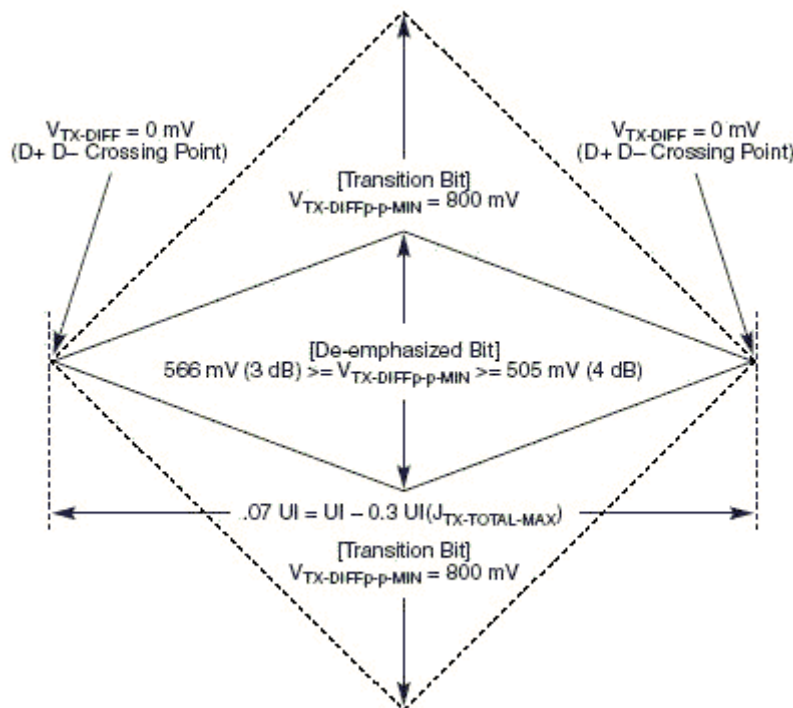
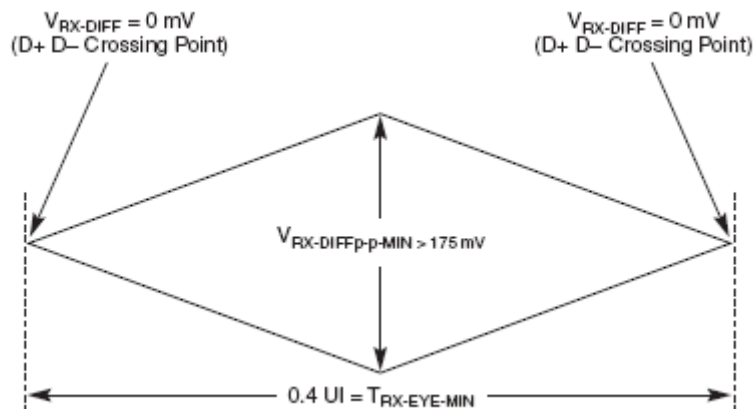
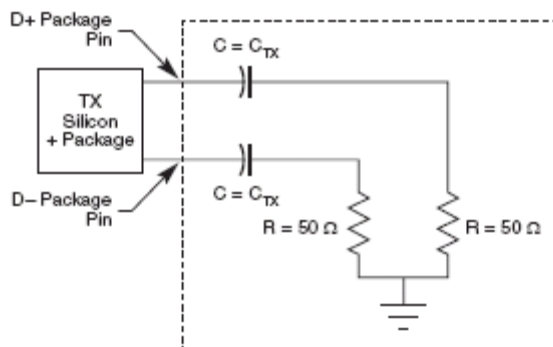

Figure 69. Minimum Transmitter Timing and Voltage Output Compliance Specifications
Figure 70. Minimum Receiver Eye Timing and Voltage Compliance Specification
Figure 71. Compliance Test/Measurement Load
The TX eye diagram in Figure 69 is specified using the passive compliance/test measurement load (see Figure 71) in place of any real PCI Express interconnect + RX component.
2. Specified at the measurement point and measured over any 250 consecutive UIs. The test load in Figure 71 should be used as the RX device when taking measurements (also refer to the Receiver compliance eye diagram shown in Figure 70). If the clocks to the RX and TX are not derived from the same reference clock, the TX UI recovered from 3500 consecutive UI must be used as a reference for the eye diagram.
4. The Receiver input impedance shall result in a differential return loss greater than or equal to 15 dB with the D+ line biased to 300 mV and the D- line biased to -300 mV and a common mode return loss greater than or equal to 6 dB (no bias required) over a frequency range of 50 MHz to 1.25 GHz. This input impedance requirement applies to all valid input levels. The reference impedance for return loss measurements for is 50 ohms to ground for both the D+ and D- line (that is, as measured by a Vector Network Analyzer with 50 ohm probes - see Figure 71). Note: that the series capacitors CTX is optional for the return loss measurement.
The RX eye diagram in Figure 70 is specified using the passive compliance/test measurement load (see Figure 71) in place of any real PCI Express RX component.
Note: In general, the minimum Receiver eye diagram measured with the compliance/test measurement load (see Figure 71) will be larger than the minimum Receiver eye diagram measured over a range of systems at the input Receiver of any real PCI Express component. The degraded eye diagram at the input Receiver is due to traces internal to the package as well as silicon parasitic characteristics which cause the real PCI Express component to vary in impedance from the compliance/test measurement load. The input Receiver eye diagram is implementation specific and is not specified. RX component designer should provide additional margin to adequately compensate for the degraded minimum Receiver eye diagram (shown in Figure 70) expected at the input Receiver based on some adequate combination of system simulations and the Return Loss measured looking into the RX package and silicon. The RX eye diagram must be aligned in time using the jitter median to locate the center of the eye diagram.
The reference impedance for return loss measurements is 50. to ground for both the D+ and D- line (that is, as measured by a Vector Network Analyzer with 50. probes—see Figure 71). Note that the series capacitors, CTX, are optional for the return loss measurement.
The AC timing and voltage parameters must be verified at the measurement point, as specified within 0.2 inches of the package pins, into a test/measurement load shown in Figure 71.